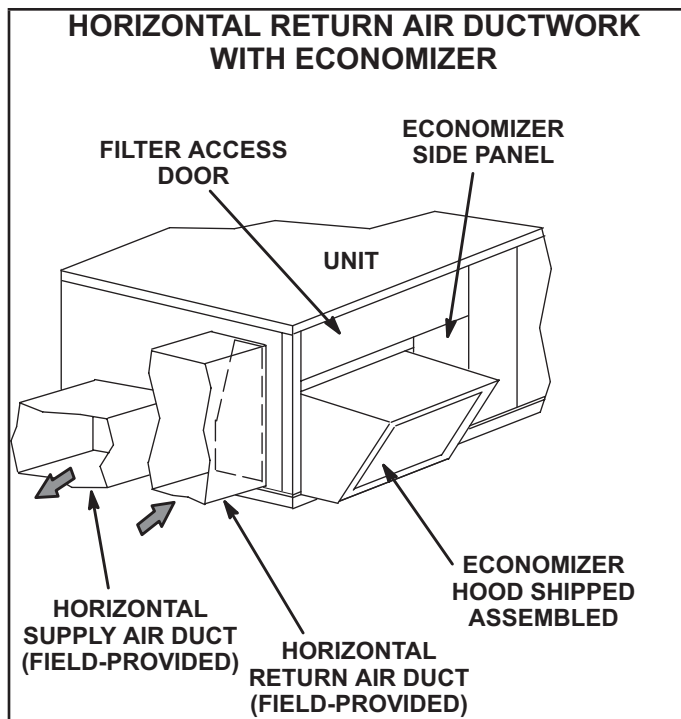

FIGURE 3
- 2 - Install supply and return air ducts on the horizontal supply and return air openings on the unit. See FIGURE 3. Horizontal economizer and supply and return air duct must be field-supported.